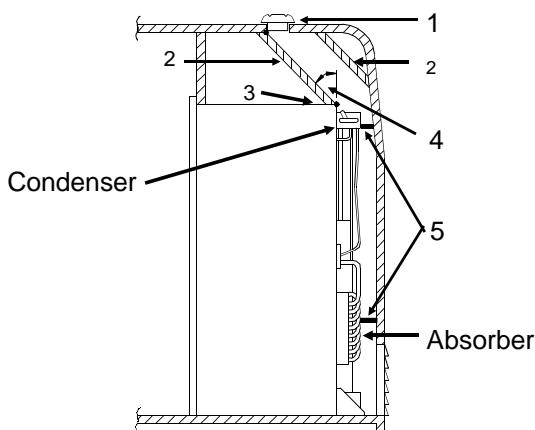

Figure 3
### Alternate Construction Requirements Figure 3
4. 0 - 1 inch clearance at the rear of the refrigerator. (See Figure 3 when clearance exceeds 1 inch).